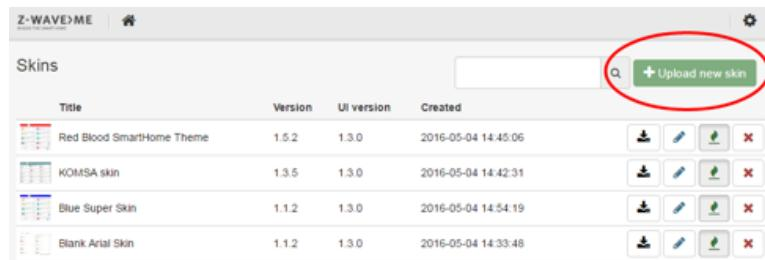

Figure 10.4: Upload new Skin
3. Click on the “Upload new skin” button as shown in Figure 10.4.